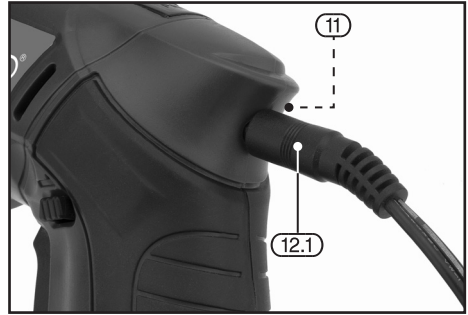

FIG.1
8.1 BATTERY CHARGING – FIGS. 1 – 2
- i Insert the transformer/charger's jack plug (12.1) into the charger connection socket (11).
- ii Plug the transformer/charger (11) into a 230V~13 amp 3 pin socket.